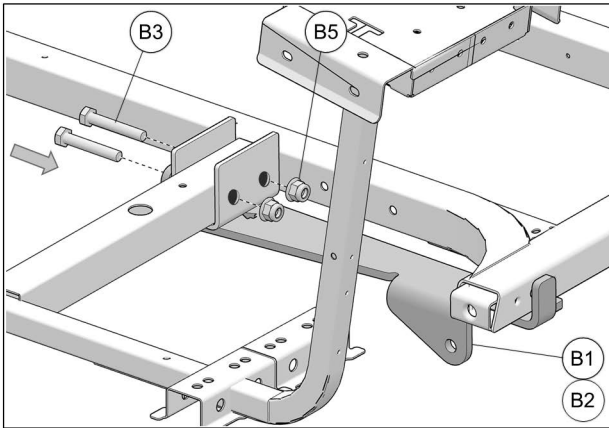

Fig. 9
7. Secure front facing part of anchor plate (**B1-B2**) to footrest sub-frame using M8 bolts (**B3**) & nuts (**B5**). Do not tighten nuts completely. See Fig. 9